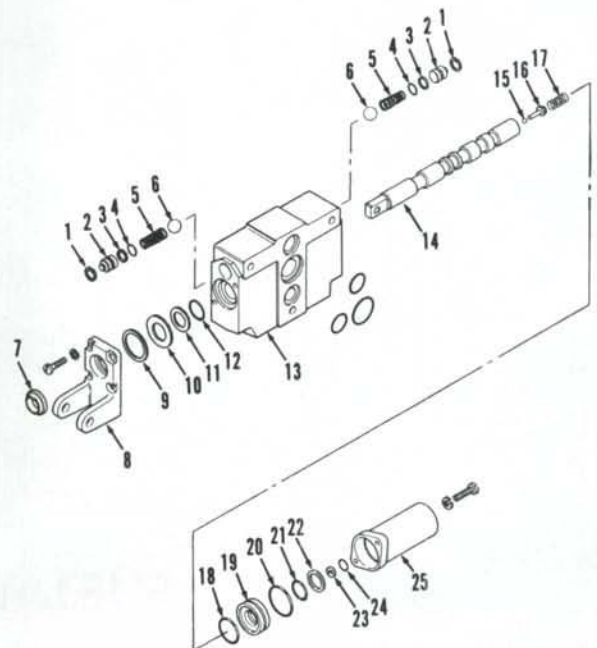

Fig. 171—Exploded view of Bosch No. 052169005 auxiliary valve. Detent assembly not shown.
On both valves, refer to Fig. 171 or 172 and unbolt and remove bracket (8) with wiper seal (7) and spacer ring (9). Unbolt and remove detent cover (25). With-
draw detent and valve spool assembly from valve body (13). Remove spacer (10), back-up ring (11) and "O" ring from front end of valve body and "O" ring (18) from detent end of valve body. Clamp flats on valve spool in a soft jawed vise. Use an Allen wrench to loosen the detent retaining screw. Remove from vise and hold assembly horizontally close to a bench top. Unscrew detent assembly from valve spool. See Fig. 173. Lay detent assembly aside. Remove spring (17—Fig. 171 or 172), poppet (16) and ball (15) from spool (14). Remove collar (19) with "O" rings (20 and
21) and back-up ring (22) from spool. Remove shims (23) and "O" ring from detent assembly.